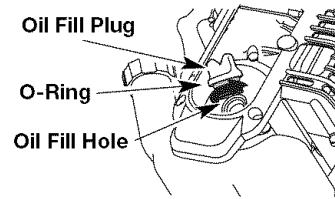

Fig. 24
**NOTE:** Make sure the O-ring is in place on the oil fill plug when checking and changing the oil (Fig. 24).